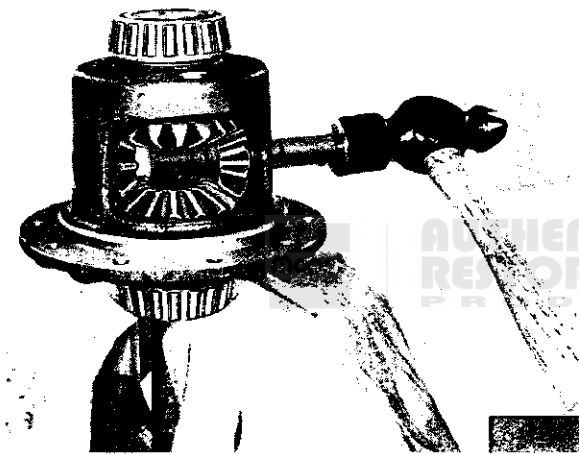

FIG. N-62—INSTALLING CROSS PIN
- r. Prelubricate the cross pin with the specified lubricant. Assemble cross pin into case. Use a hammer as shown. Be sure the snap ring grooves of the cross pin are exposed to allow assembly of the snap rings. Refer to Fig. N-62.